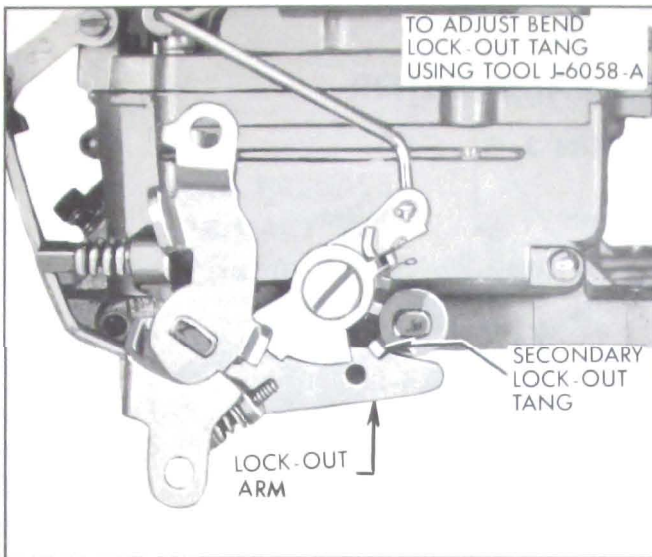

Figure 3-48—Secondary Throttle Lock-Out Adjustment
The secondary section does not have a choke valve. In order to prevent air entering the carburetor through the secondary side during the engine warm-up period, it is necessary to lock the secondary throttle valves in the closed position. This is accomplished by engagement of a lock-out arm with a locking tang on the secondary valve shaft lever. See Figure 3-48.
8. Adjust Secondary Throttle Lock-Out. Open primary throttle valves slightly to clear fast idle cam and manually open and close choke valve. Lock-out tang on secondary throttle should freely engage in notch of lock-out dog while barely missing edge of notch. If necessary to adjust, bend tang on secondary throttle lever using Tool J-6058-A. See Figure 3-48.